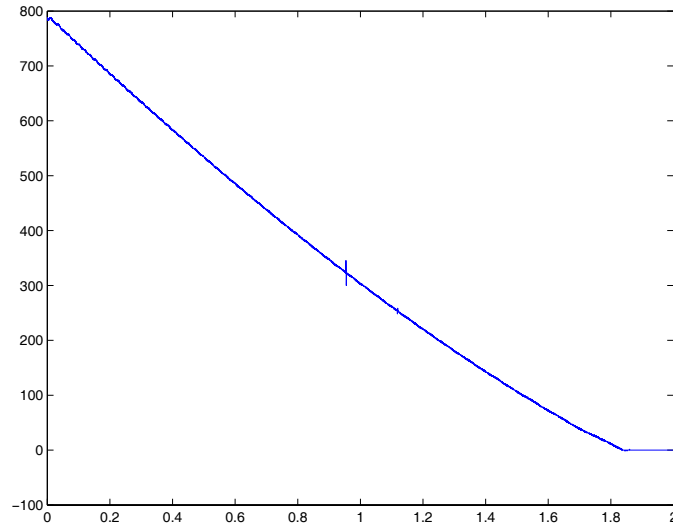

Figure 4.7: Current Waveform
- Uncheck the Shutdown button. This will initiate the display process and, after two seconds, the speed plot will stop and a decreasing exponential curve will be obtained (see Fig. 4.7).